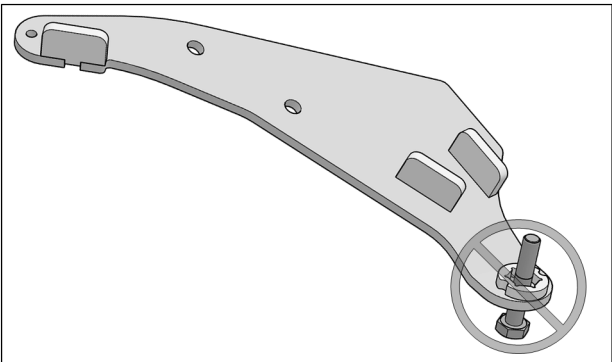

Fig. 16
**CAUTION:** Make sure that the bolt is inserted in the right direction. See Fig. 16